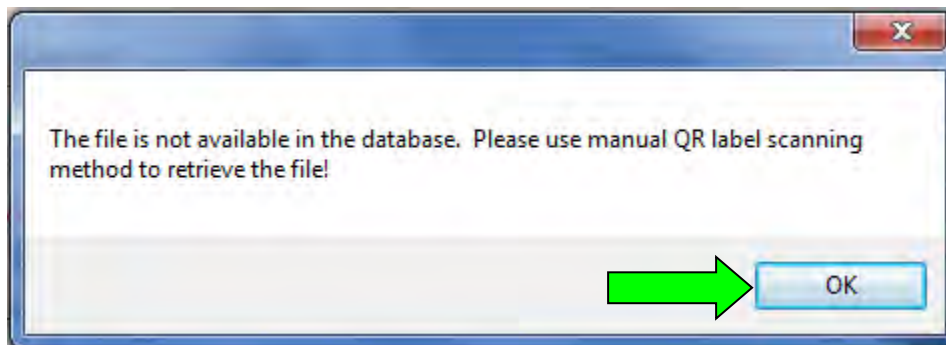

Figure 4
- If the pop-up shown in Figure 4 populates, select “OK” and continue to step 5, below.